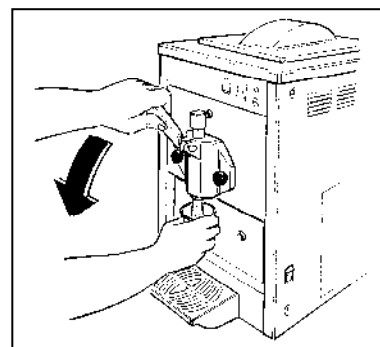

Fig. 13
- Empty the cylinder and repeat the same steps until the water coming out is clear (fig. 13).